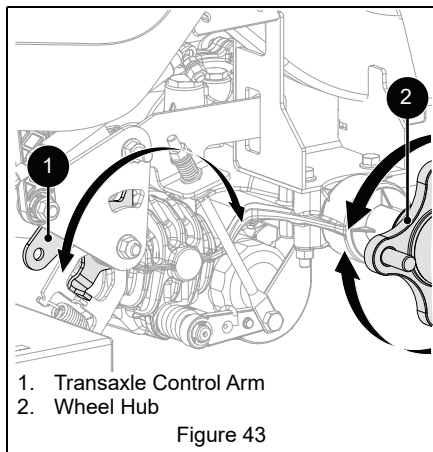

Figure 43
7. **Technician:** Slowly turn transaxle control arm in the opposite direction of hub rotation until hub stops. See Figure 43.